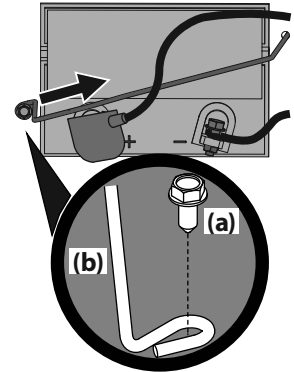

Figure 15
1. Remove the hex washer screw (a) securing the battery hold-down bracket (b) to the frame. Then flip the battery hold-down bracket (b) up to free the battery. See Figure 15.